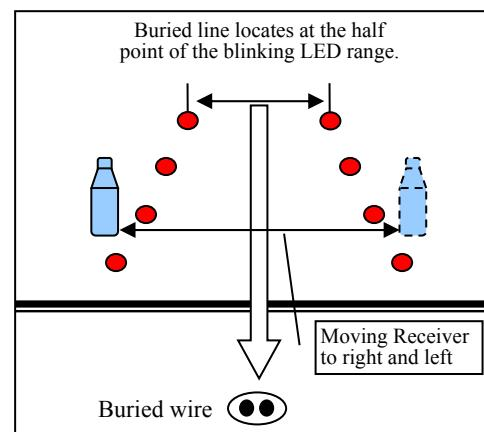

Figure 14
- (6) Figure 14 shows the condition of the judgment LEDs. Buried line is at the midpoint of the blinking LED range.